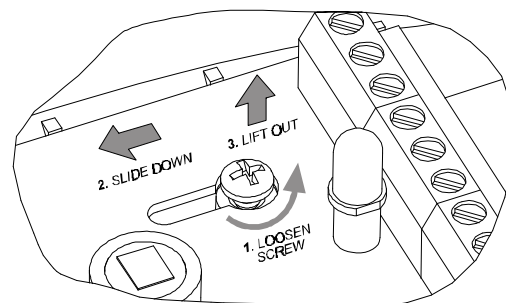

Figure 4. PCB Removal
- B. Remove the PCB (see Figure 4) and put it temporarily aside.